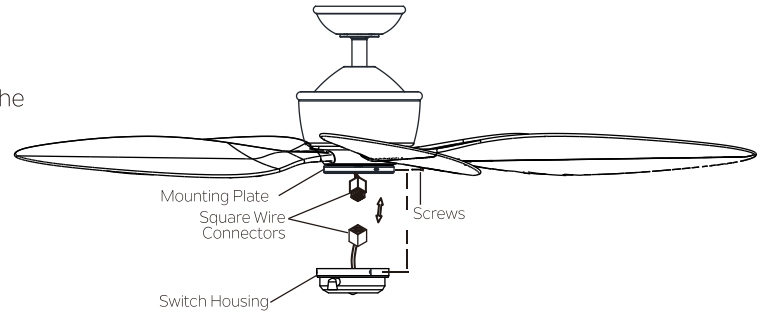

Fig. 16
**Step 1.** While holding the switch housing under your ceiling fan, push the square wire connectors together. One from the fan and one from the switch housing. (Fig.16)
**Step 2.** Carefully push all the wires into the switch housing. Attach the switch housing to the mounting plate with the screws provided. Make sure each screw is tight. (Fig. 16)